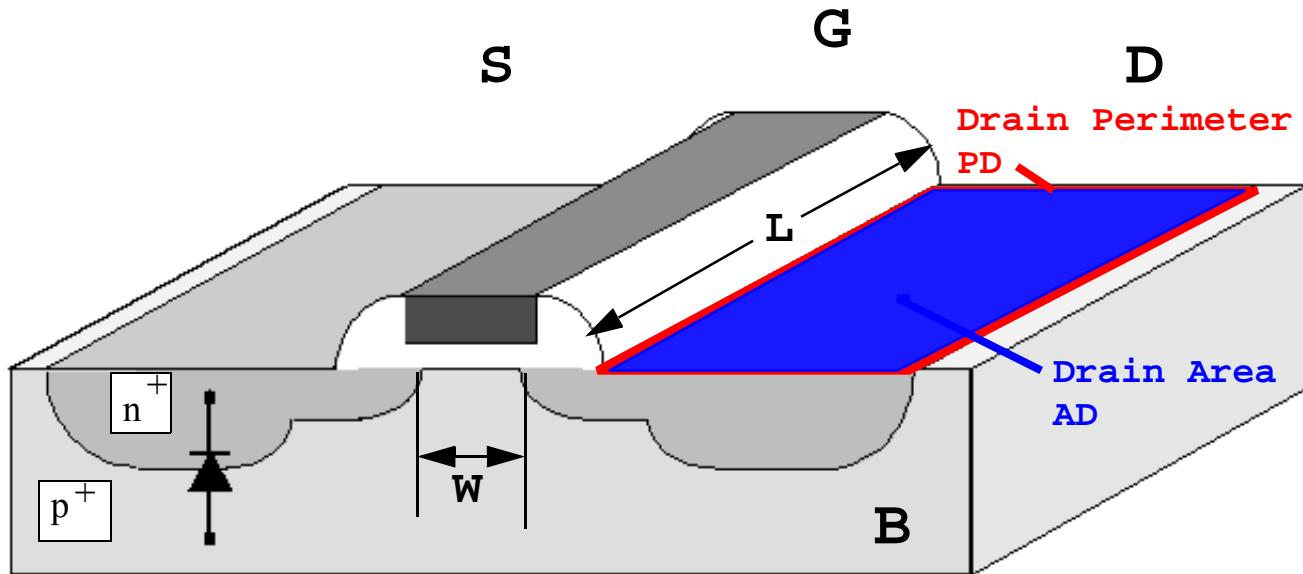

Figure 1-16. .Cross section of a MOSFET showing device geometries
For each line, enter a name for the DUT, gate length and width (L, W), drain and source areas (AD, AS), perimeter length of drain and source (PD, PS) and the number of device fingers (NF) of the transistor to be measured, see Figure 1-16 for details on device geometry.